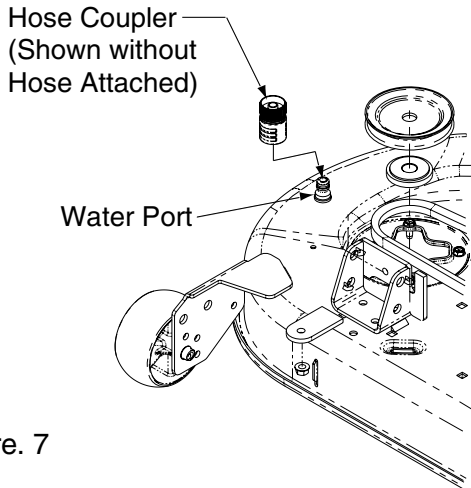

Figure. 7
- Thread hose coupler (packaged with this manual) onto the end of your garden hose. See Figure 7.
- Attach the hose coupler to the water port on your mower deck's surface. See Figure 7. Turn the water on.